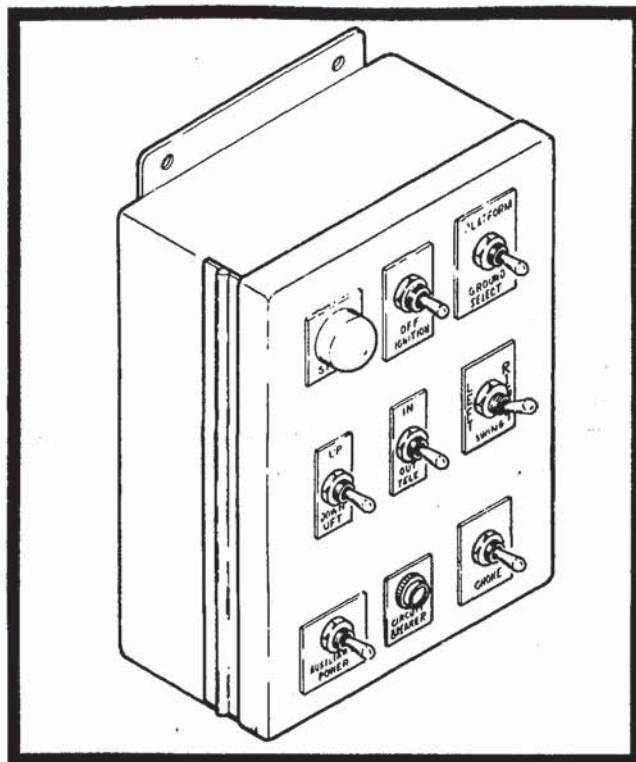

Figure 3-1. Ground Control Station.
a. Ground Station. (Figure 3-1.)